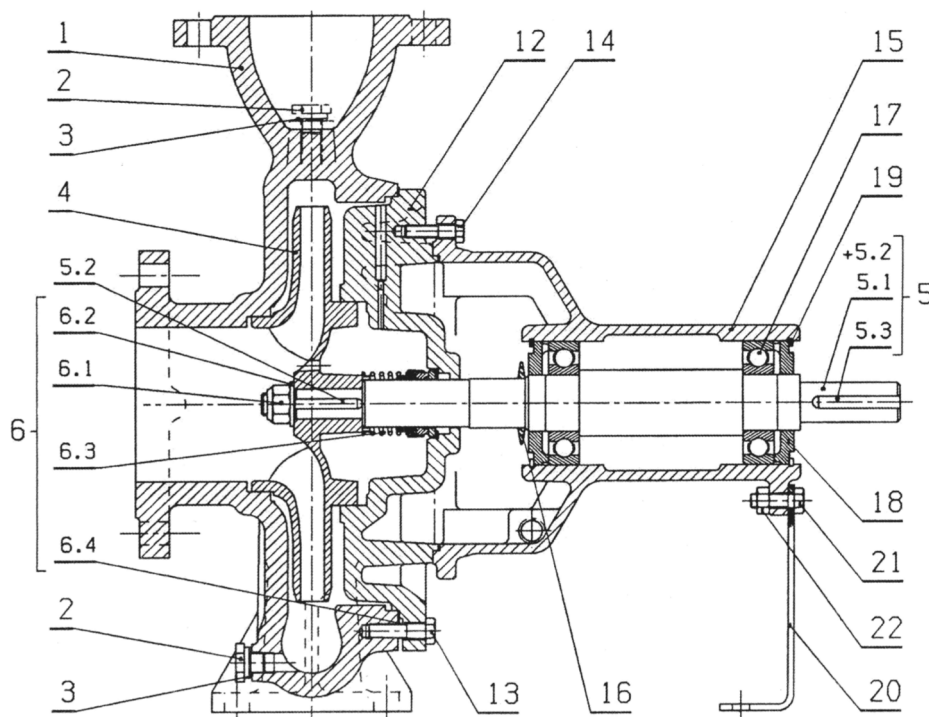

Fig. 8
- Item/part numbers (fig. 8),
9.2 Standard pump NL, model with mechanical seal (Fig. 8)